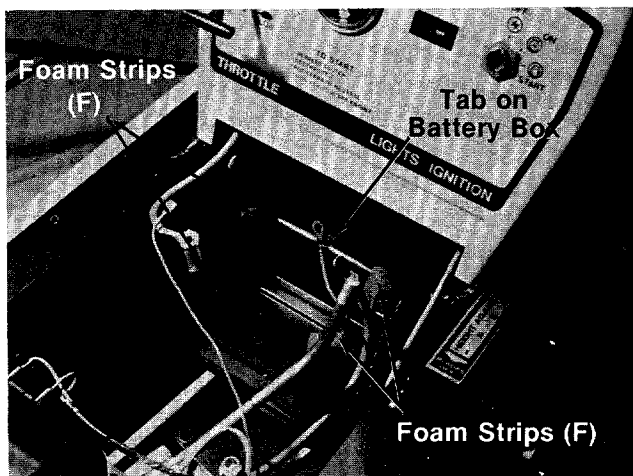
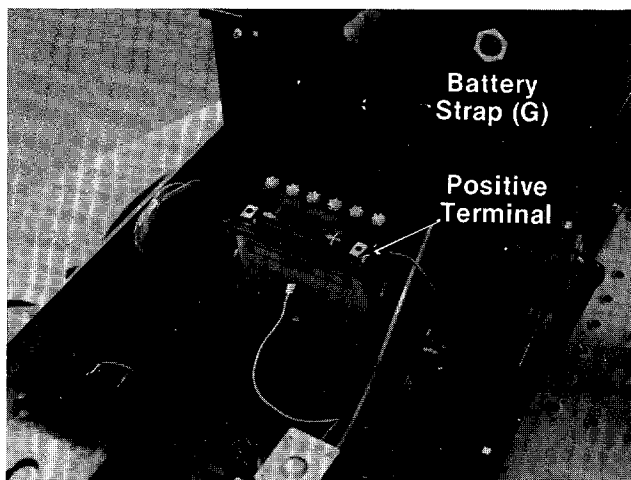

FIGURE 8.
FIGURE 9.
4. Install the four foam strips (F) into the battery box as follows.
- B. Peel the paper off the foam strips to expose the adhesive backing. Press foam strips firmly into the corners of the battery box. See figure 8.
5. Loop one end of battery strap (G) around the tab on battery box shown in figure 8. Hold the battery strap out of the way. Place the battery in the lawn tractor so that the positive terminal is facing the right side of the unit. See figure 9.